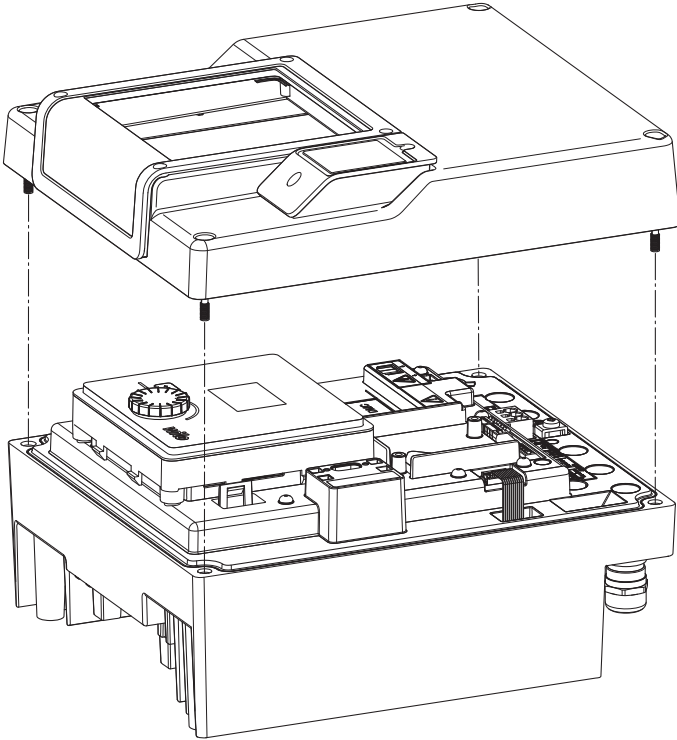

Fig. 45: Open the cover of the electronic module
- Open the cover of the electronic module. (Fig. 45).